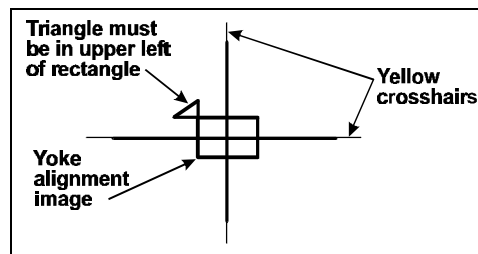

Figure 5-12. Yoke alignment image properly oriented and aligned
7. Reposition the alignment image to the center of the monitor (Figure 5-12) by pressing the Arrow keys.
8. Verify that the alignment image horizontal and vertical bars are aligned with the yellow crosshairs (not rotated) and that the small triangle is positioned at the upper left quadrant of the rectangle (Figure 5-12).